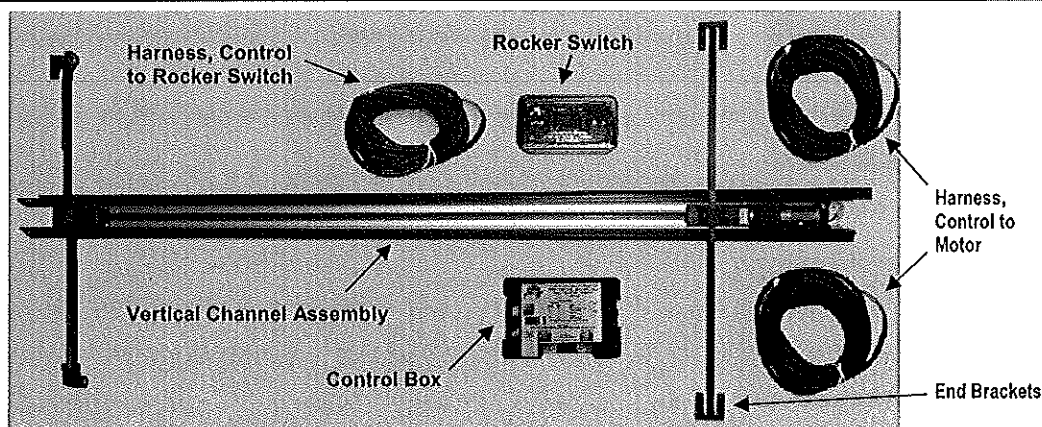

Figure 2
5. Press and hold the "UP" button on the wall switch (Fig. 2). A slight delay is normal before the bunk begins to move.
- A. The "FAULT CODE" LED (Fig. 2) on the wall switch will flash RED a number of times corresponding to a specific fault code.
- B. The "BUNK LIFT MOVEMENT" LED on the wall switch (Fig. 2) will flash GREEN a number of times corresponding to which motor had the associated fault.
- A. MINOR faults can be cleared by pushing and releasing the "UP" or "DOWN" buttons on the wall switch (Fig. 2).
1. Remove the wall switch (Fig. 2) from the wall.